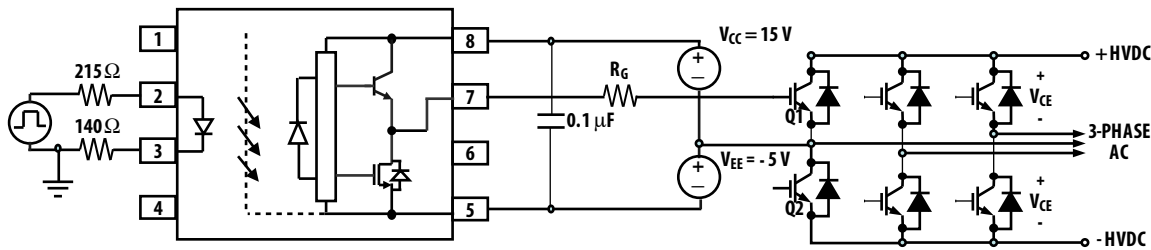

Figure 24. ACNT-H313 typical application circuit
Step 1: Calculate R_g minimum from the I_{OL} peak specification. The IGBT and R_g in Figure 24 can be analyzed as a simple RC circuit with a voltage supplied by the ACNT-H313.
For the circuit in Figure 24 with I_F (worst case) = 12 mA, R_g = 8 Ω , Max Duty Cycle = 80%, Q_g = 500 nC, f = 20 kHz and T_A max = 85 $^{\circ}\text{C}$: